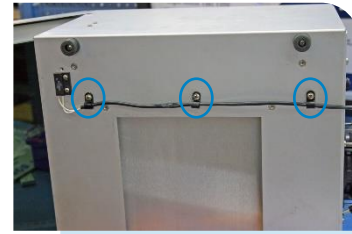

Figure 4. Interlock Switch Cable
5. Fasten the Interlock Switch Cable to the bottom side of the unit using the three Nylon Strap Loops and the three M4 x 8-mm screws (Figure 4).